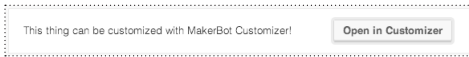

Fig. 13.1
2. In the Thing page, select the button Open in Customizer. [Fig. 13.1]